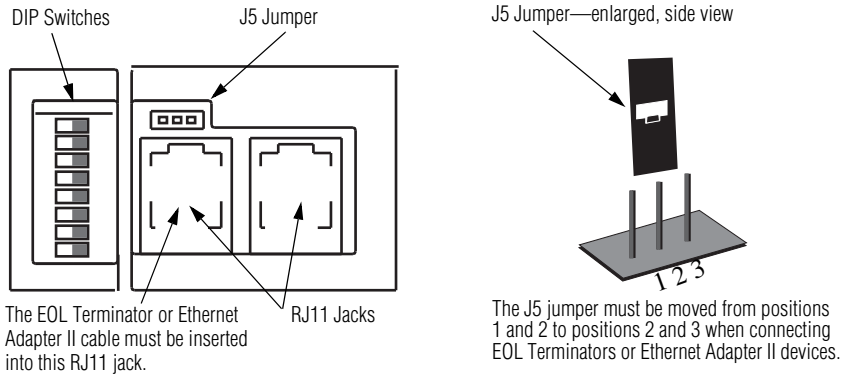

Figure 5: Location of DIP Switches and J5 Jumper
2. Locate the J5 jumper on the backside of the serial clock (See Figure 5: Location of DIP Switches and J5 Jumper).
3. Use your fingers or a needle-nose pliers to carefully remove the jumper from positions 1 and 2 (See Figure 5: Location of DIP Switches and J5 Jumper). Make sure not to drop the jumper because it could fall into the serial clock's case. Place the jumper into positions 2 and 3.
5. The EOL terminator or Ethernet Adapter II cable must be inserted into the RJ11 port on the left, closest to the DIP switches (See Figure 5: Location of DIP Switches and J5 Jumper).